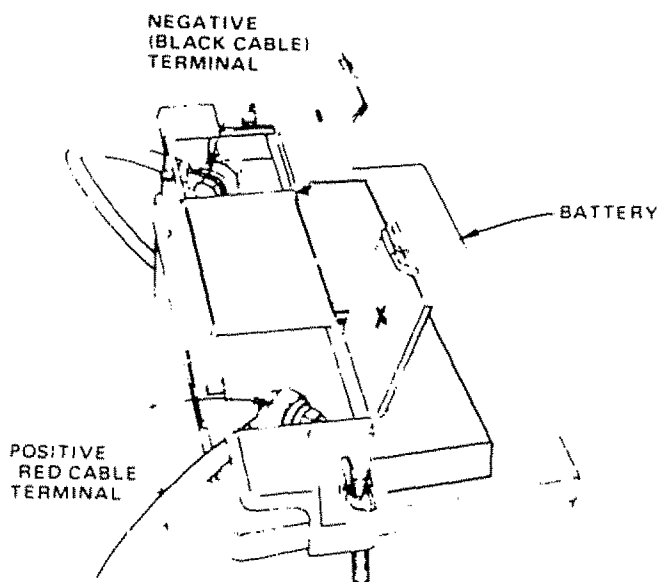

FIGURE 27
- Connect each end of the RED cable to the POSITIVE (+) terminals of each battery (taking care not to short against chassis) (Fig 27).